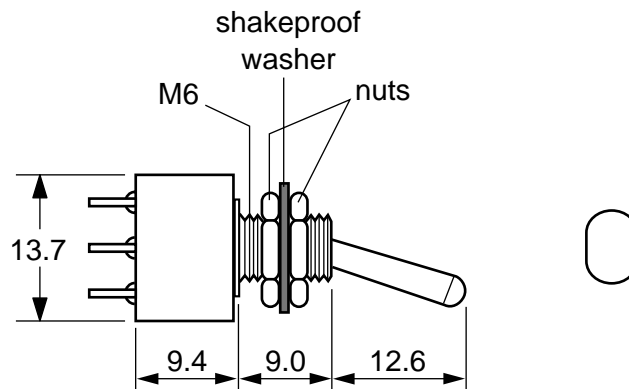

Fig. 4
- 2 (a) Fig. 4 shows a diagram of a toggle switch. The switch is to be mounted on a front panel made from sheet aluminium. The shape of the panel cutout required for the switch is also shown.